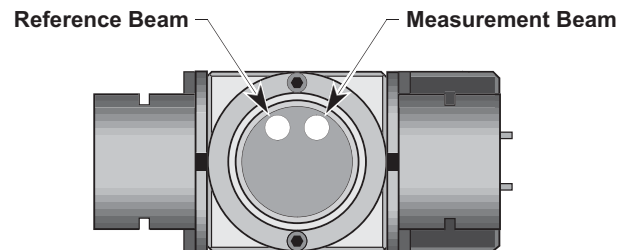

Figure 148 Differential interferometer as viewed from plane mirrors
- 6 Once the autoreflection alignment of the interferometer is complete, remove the gage block and select the large aperture on the laser head. Two parallel unclipped beams should now leave the interferometer. See Figure 148.